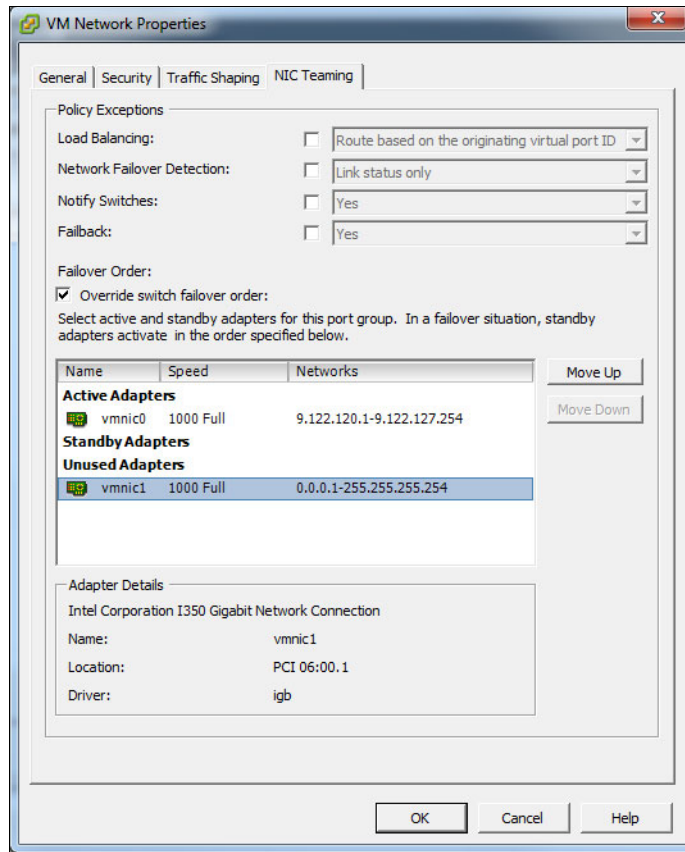

Figure 7-49 VM Network Properties: NIC Teaming
- c. Under Active Adapters, keep only one adapter and then use **Move Down** to shift other adapters under the unused adapters, as shown in Figure 7-49.